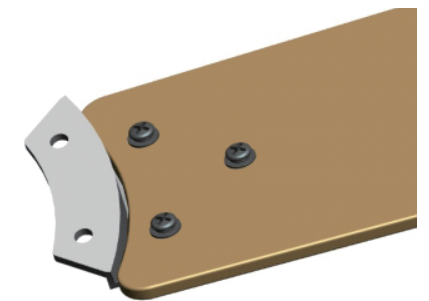

Fig 1.2
1.2 Fig 1.2 is the schematic diagram of the installed fan blade bracket. Repeat for the remaining blades. Make sure all the screws are firmly tightened.